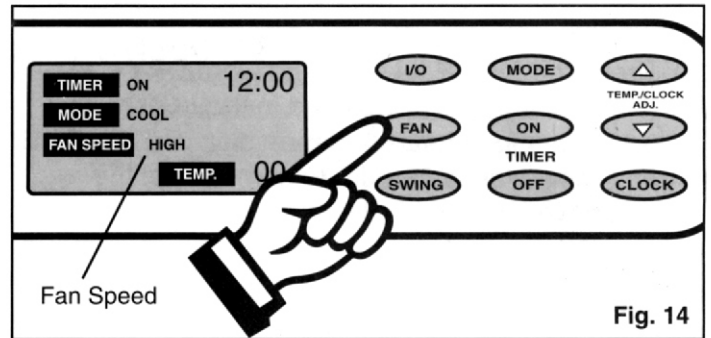

Fig. 14
- 5) Press the **FAN** key to select the desired fan speed setting (**High-Med-Low**). See Fig. 14. Your selection will be displayed in the **LCD** window (each depression of the fan key will advance to a different setting).